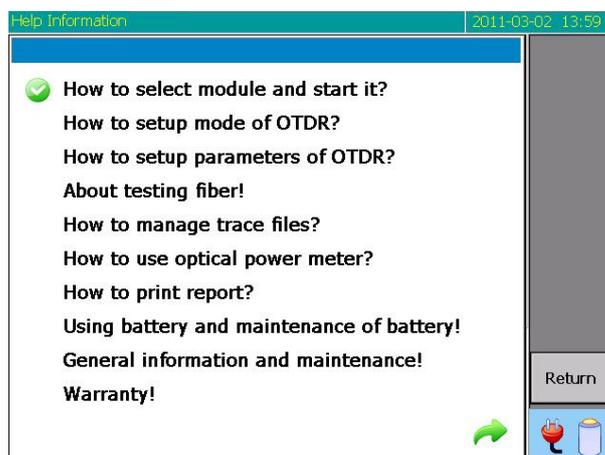

Figure 8-46 Help information window
Press **【System】** in the first menu of main screen into system sub-menu. Press **【Help】** in this sub-menu bar, the Help Information sub-window appears as shown in Figure 8-46. This window displays brief help information and precautions
- Press  to return help topics screen, as shown in Figure 8-46.